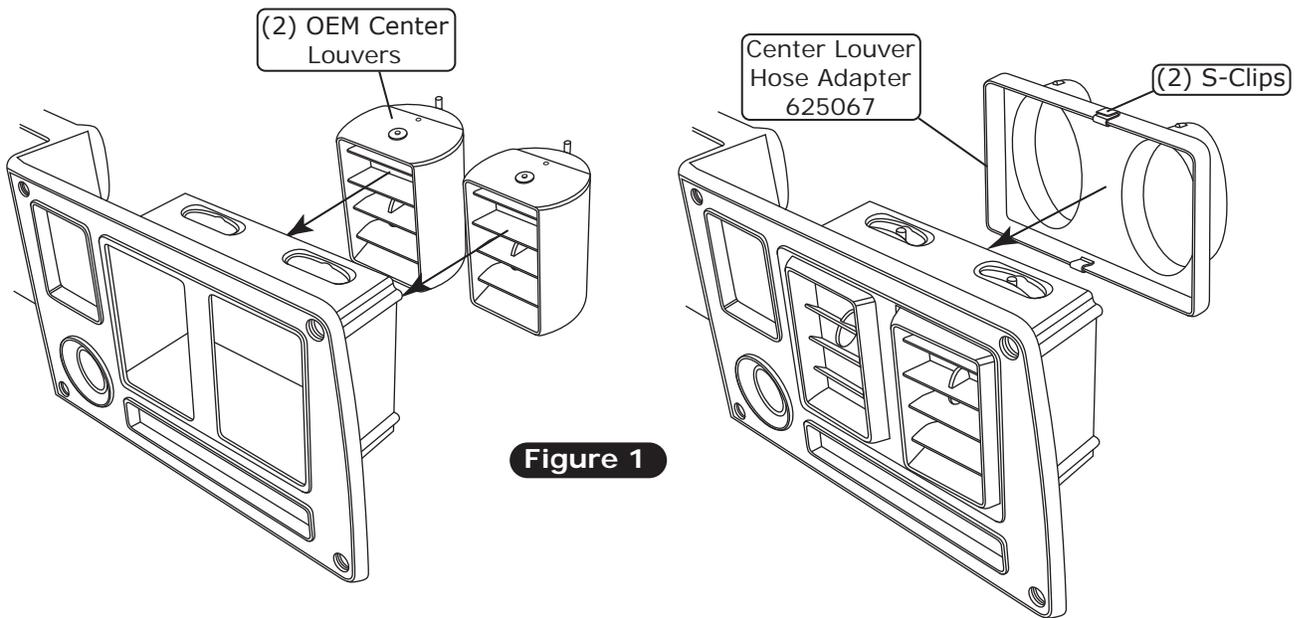

Figure 1
4. Install the center louver hose adapter onto the center louvers as shown in Figure 1, below.